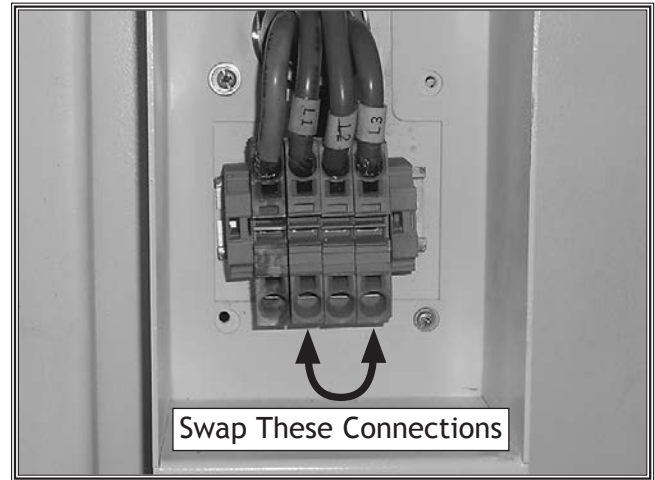

Figure 22. Swap L1 and L3 wires at incoming power junction box.
4. Push the EMERGENCY STOP button in, then twist it clockwise so it pops out. When the EMERGENCY button pops out, the switch is reset and ready for operation (see **Figure 22**).
- If the top of the conveyor belt rotates toward the front of the machine, it is moving in the wrong direction. Stop the machine, shut **OFF** the power source, then swap the incoming power L1 and L3 wires at the junction box (see **Figure 22**) to correct the conveyor belt rotation.